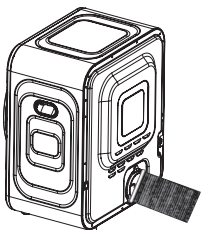

Figure 4
- **Step 2:** Insert and rotate clockwise to tighten it firmly (See Figure 4).